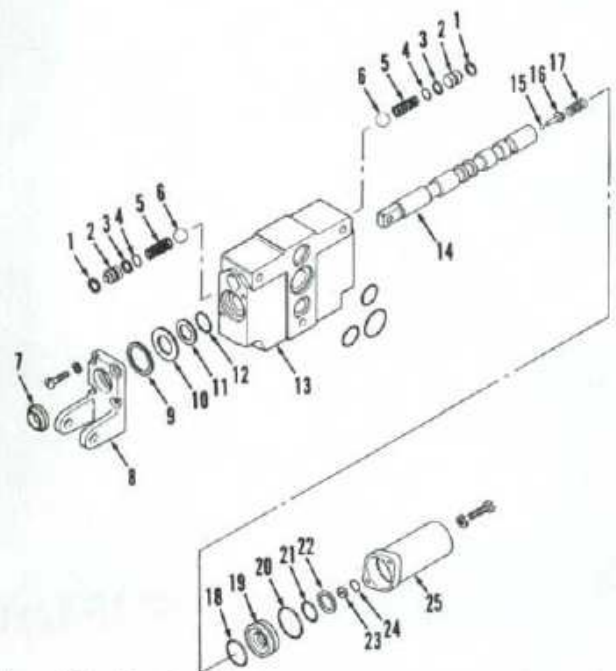

Fig. 171—Exploded view of Bosch No. 052169005 auxiliary valve. Detent assembly not shown.
On both valves, refer to Fig. 171 or 172 and unbolt and remove bracket (8) with wiper seal (7) and spacer ring (9). Unbolt and remove detent cover (25). With-
draw detent and valve spool assembly from valve body (13). Remove spacer (10), back-up ring (11) and "O" ring from front end of valve body and "O" ring (18) from detent end of valve body. Clamp flats on valve spool in a soft jawed vise. Use an Allen wrench to loosen the detent retaining screw. Remove from vise and hold assembly horizontally close to a bench top. Unscrew detent assembly from valve spool. See Fig. 173. Lay detent assembly aside. Remove spring (17—Fig. 171 or 172), poppet (16) and ball (15) from spool (14). Remove collar (19) with "O" rings (20 and